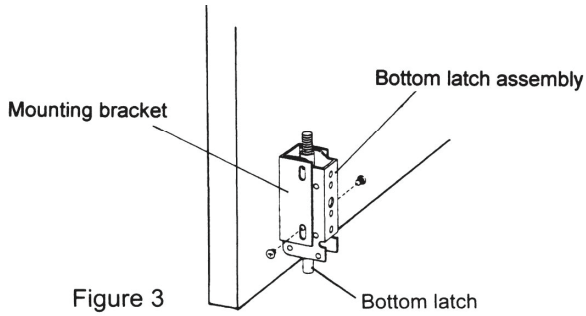

Figure 3
- a. Mount bottom latch assembly into mounting bracket. (See Figure 3.)